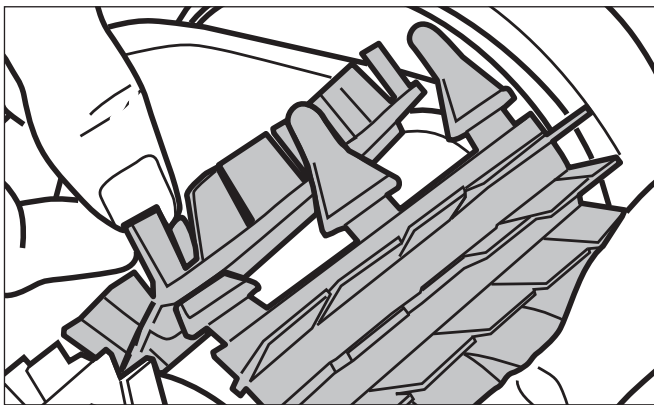

Figure 29. Pull Tabs Through Each Slot
4. Thread each tab into the slot provided and gently feed it through until the heel comes out at the other side of the slot.(Figure 29)